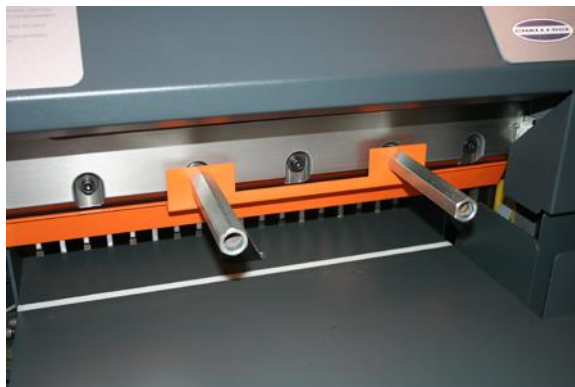

**Figure 22**
2. Back off the knife adjusting screws on top of the knife bar several turns (Figure 22). A new knife will cut deeper than one that has been ground several times. Failure to back off the screws could damage the knife and/or the cutting stick.